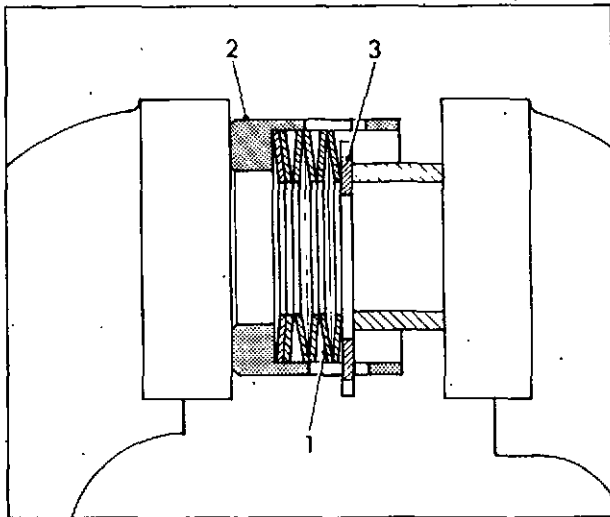

Fig. 22 Assembling recoil unit
Lightly smear the 'Belleville' washers (1) fig. 22 with Aero Shell 16 grease and assemble them into the recoil housing (2) as illustrated.
Insert one side of lock washer (3) in the slot in recoil housing and compress the 'Belleville' washers, as shown in fig. 22, until the lock washer can be engaged in the other slot. Clamp the armature shaft vertically in the vice with the threaded end downwards.